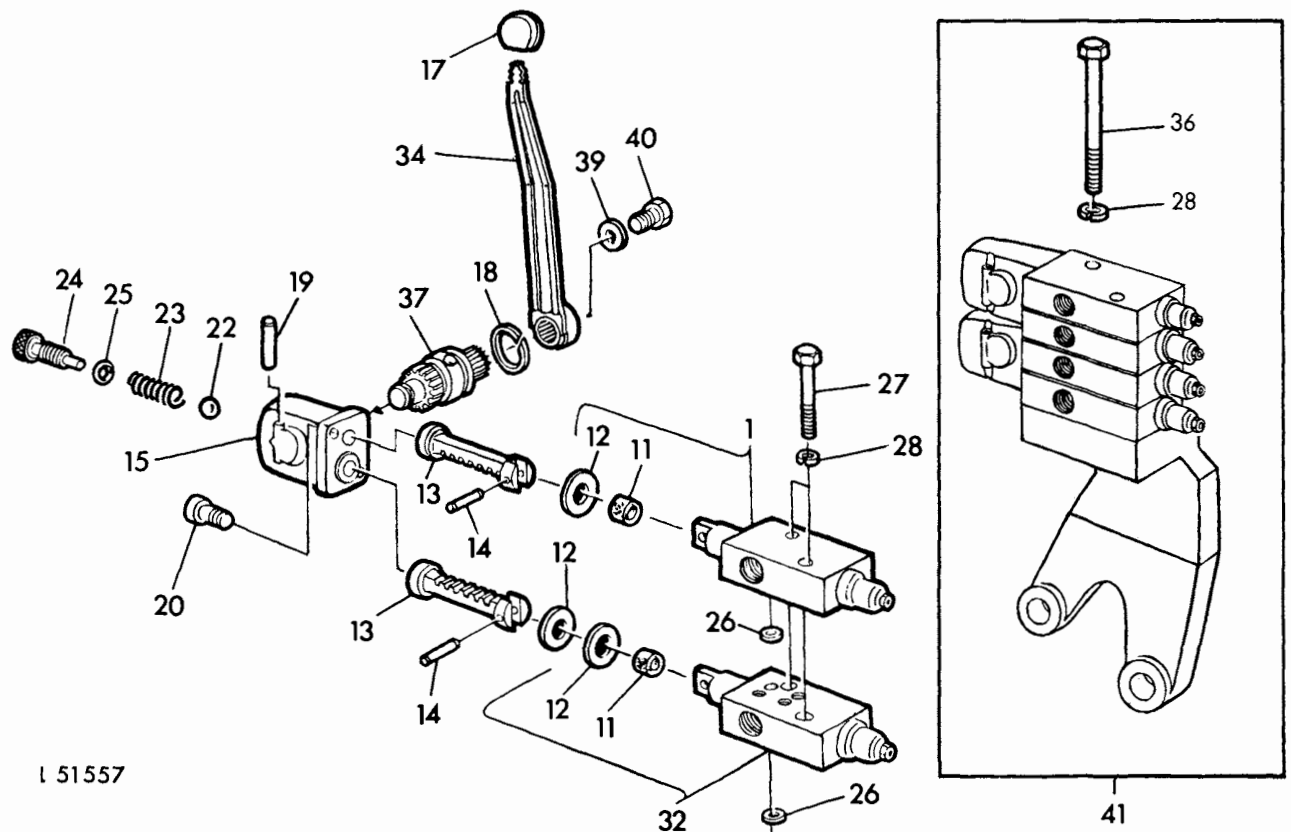

Fig. 4 — Exploded View of a Dual Selective Control Valve
3. One dual selective control valve (see fig. 4)
4. Two dual selective control valves (see fig. 4)
If the tractor is equipped with two dual control valves, there are three valves with open oil passages and one valve closed on one (the top) side. Moreover, there are two end plates 15. No junction block is required (see fig. 4).